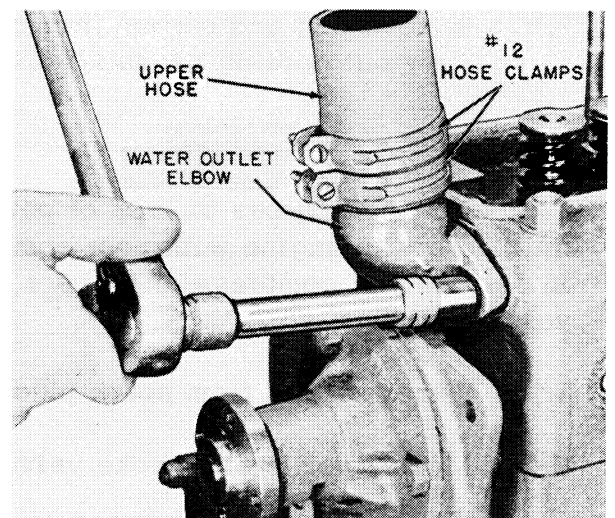

Figure 9 - Water Outlet Elbow
3. Remove water outlet elbow with hose and thermostat as a unit. Figure 9.